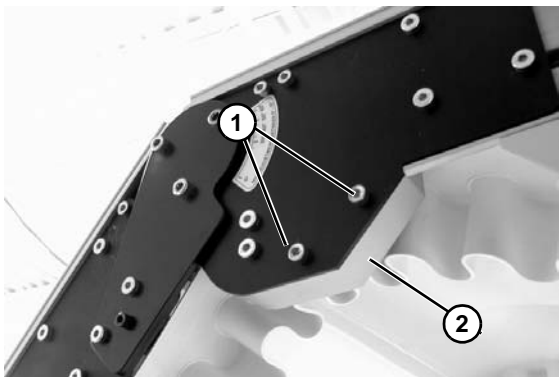

**Figure 84**
6. Slide the shaft assembly (**Figure 84, item 1**) out of the pulley (**Figure 84, item 2**).